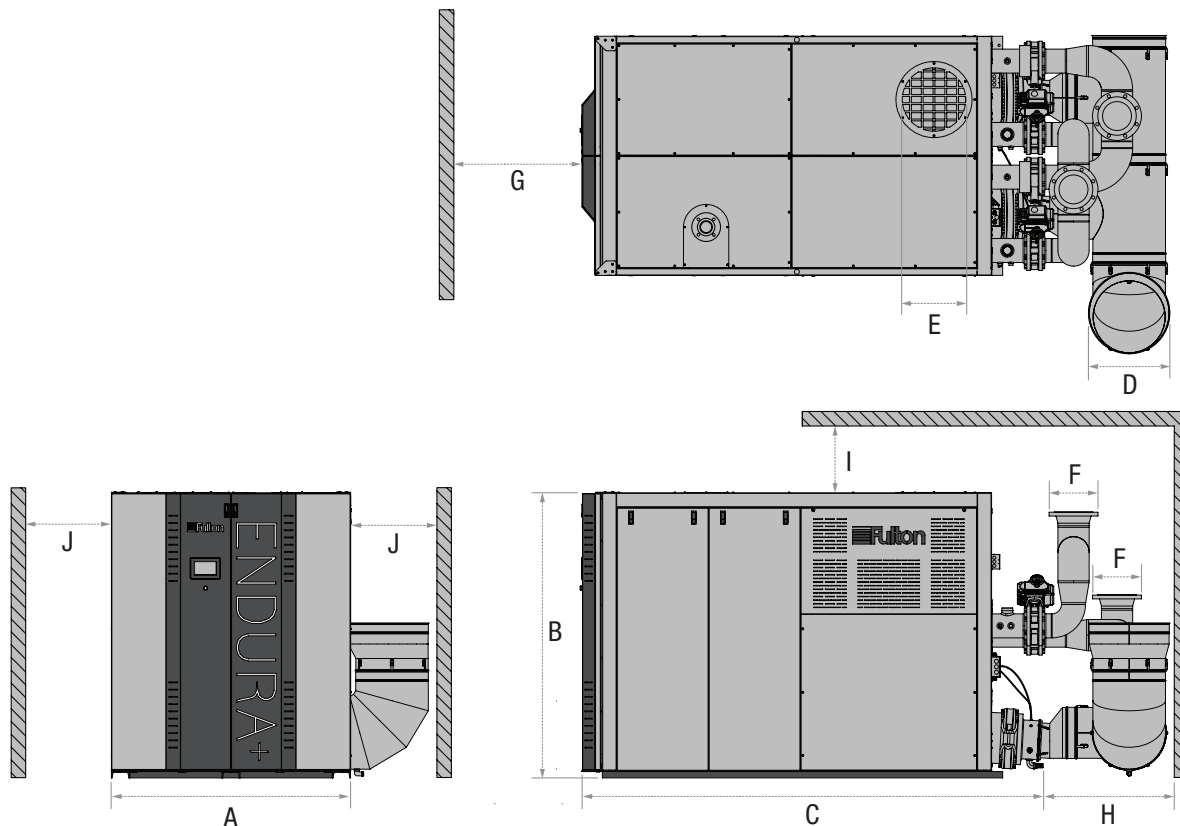

FIGURE 1 - SERVICE CLEARANCE
Prior to the performance of installation, operation, or maintenance procedures, personnel should become familiar with the equipment (Table 1 and Figure 1) and its components.
2. Appropriate front, back, side and top clearances must be maintained (Figure 1) to allow access around the equipment to facilitate maintenance and a safe work environment.